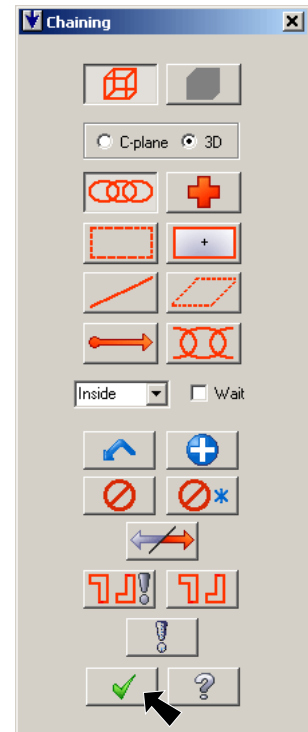

Fig. 13
Step 3. Click OK  in the Chaining dialog box, **Fig. 13**.